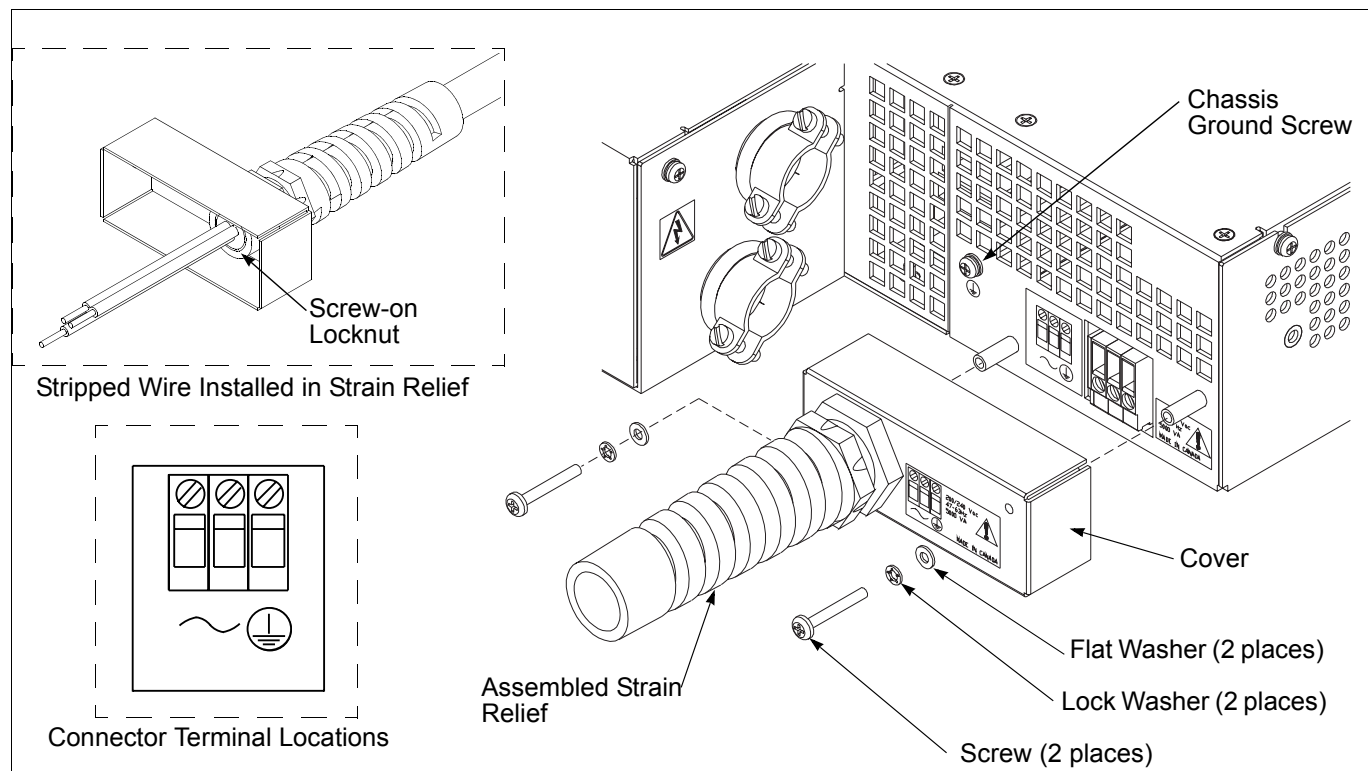

Figure 2.2 AC Input Cover and Strain Relief
2. Ensure that the packing box contains the AC input cover and strain relief kit (see Figure 2.2).
The AC input connector is a 3-terminal wire clamp located on the power supply’s rear panel. See Figure 2.2 AC Input Cover and Strain Relief. See Table 2.2 for the input voltage ranges and frequency required to operate the power supply.
1. Strip the outside insulation on the AC cable approximately 4 in. (10 cm). Trim the wires so that the ground wire is 0.5 in. (12 mm) longer than the other wires. Strip 0.55 in. (14 mm) at the end of each of the wires. See Figure 2.2 detail (top).
4. Route the AC wires to the input connector terminals as required. For input connector terminal locations, see lower inset in Figure 2.2. To connect the wiring, loosen the terminal screw, insert the stripped wire into the terminal, and tighten the screw securely.
5. Route the wires inside the cover to prevent pinching. Fasten the AC input cover to the unit using the (6-32 x 1 1/4 in. (2)) screws, flat washers, and lock washers provided. See Figure 2.2.